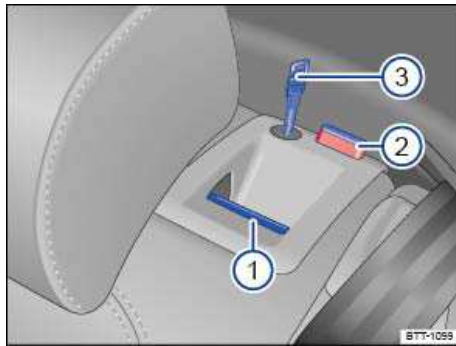

Fig. 100 Rear seat backrest: Release button 1; red mark 2; emergency key in lock 3.
- ☐ If necessary, use the emergency key to unlock the release button as shown ⇒ fig. 100 \(3\).
- ☐ Pull the release button (1) forward while folding the rear seat backrest forward.
- ☐ The rear seat backrest is unlocked when the red mark on the button (2) is visible.
- ☐ The rear seat backrest is unlocked when the red mark on the button ⇒ fig. 100 (2) is visible.